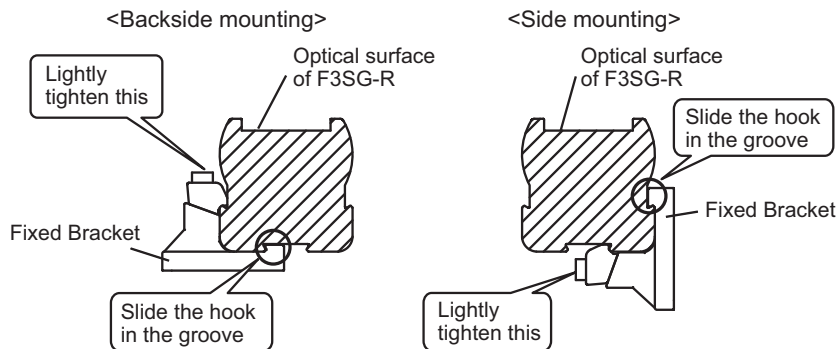

Fig. 2
##### 2. Slide the hook of the Fixed Bracket (1) in the groove of the F3SG-R housing. Lightly tighten the hexagon socket head cap screw (M3 x 15). (Fig. 2)